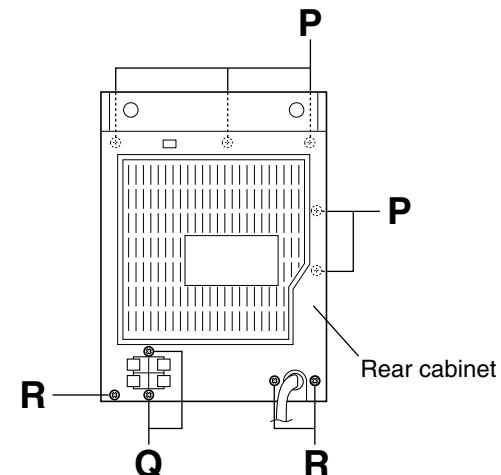

Fig.18
(See Figs. 18 and 19.)
1. From the inside of the rear cabinet, remove the five screws **P** retaining the bracket. (See Fig.18.)
2. From the rear side of the main body, remove the two screws **Q** retaining the speaker terminal of the main board. (See Fig.18.)
3. Remove the three screws **R** retaining the rear cabinet, then remove the rear cabinet. (See Fig.18.)